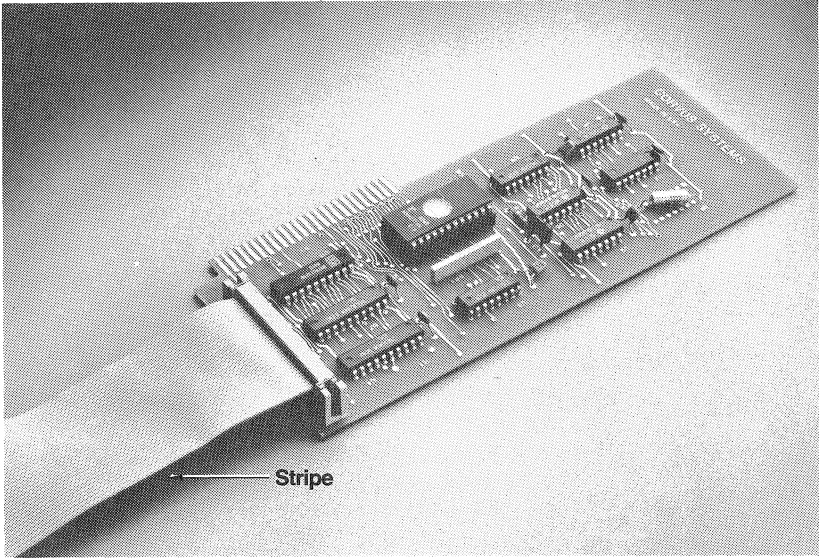

FIGURE 2.10 FLAT CABLE CONNECTED TO INTERFACE CARD
3. Connect the interface cable to the interface card (see figure 2.10). The stripe on the interface cable should be up; facing away from the gold connecting fingers on the bottom of the card.